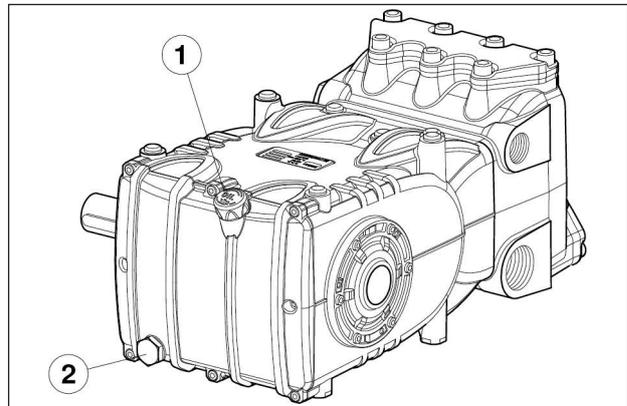

Fig. 3
Check the oil level and if necessary refill from the oil dipstick pos. ①, Fig. 3.
The correct checking of the oil level is made with the pump not running, at room temperature. The oil change must be made with the pump at working temperature, removing: the oil dipstick, pos. ①, and then the plug pos. ②, Fig. 3.
Use a temperature probe to be inserted into the oil drain plug pos.(2) fig.3. See "ATEX EXPLOSION PROTECTION" manual.